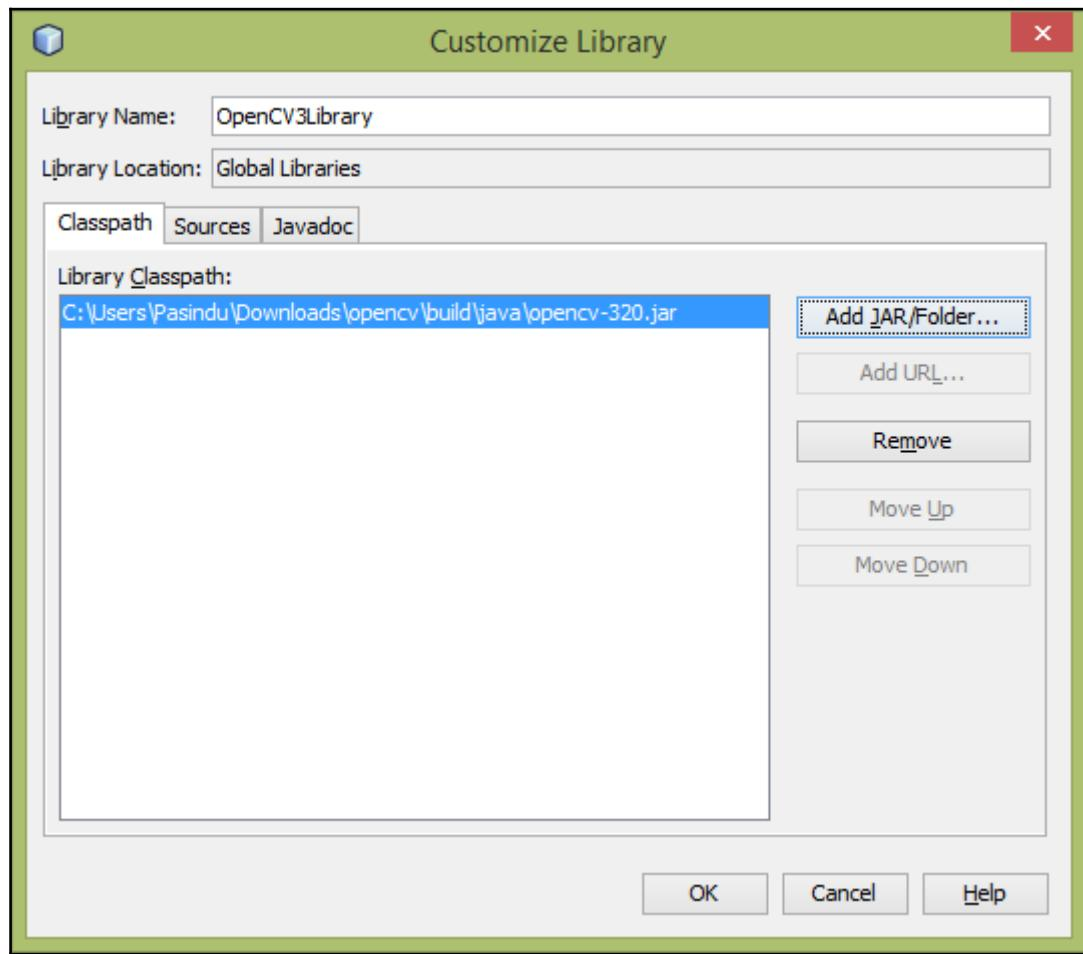

Figure 7-9: Customize Library
5. The library path will be added to the **Library Classpath**, as shown in Figure 7-9. Click **OK** to add the library to the available libraries: